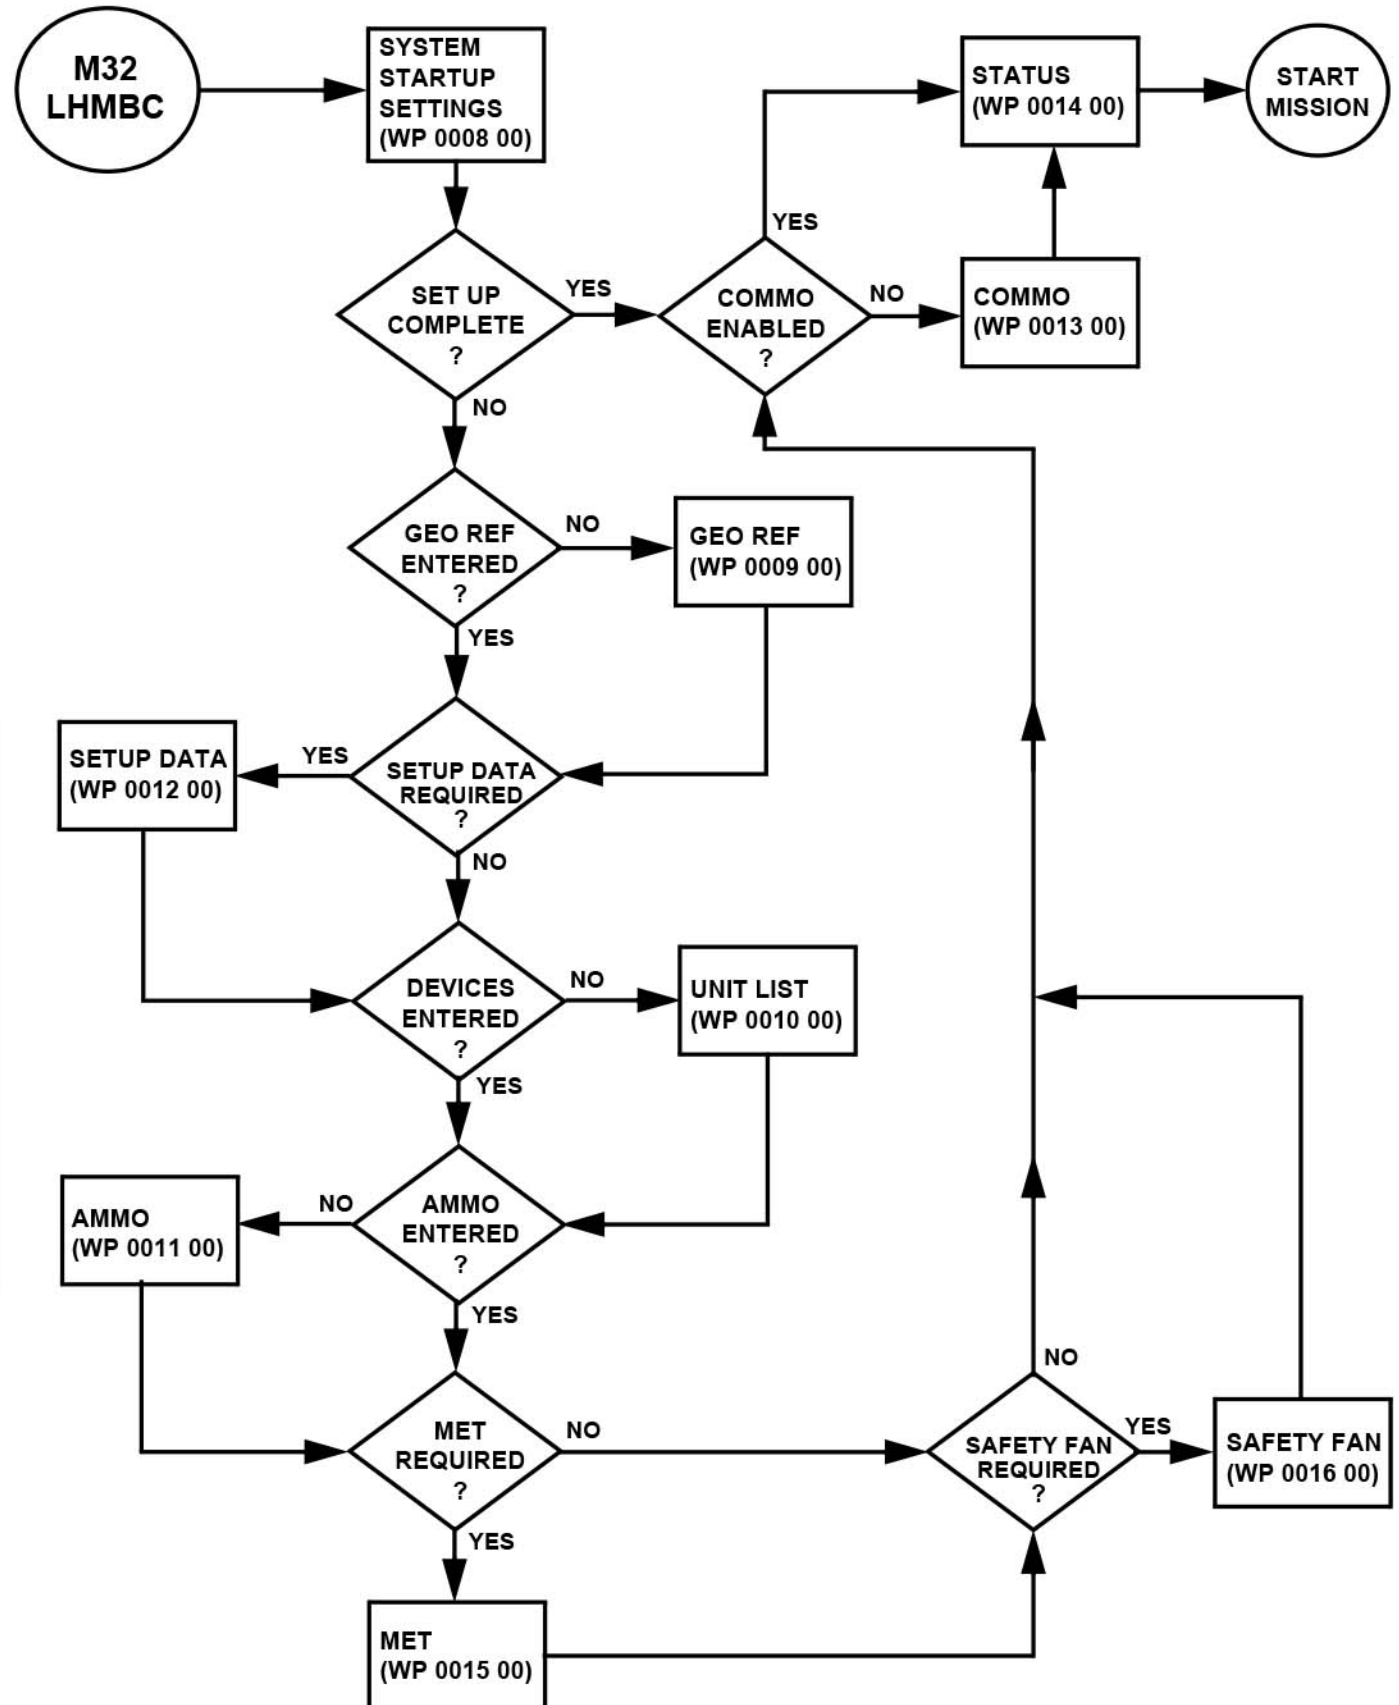
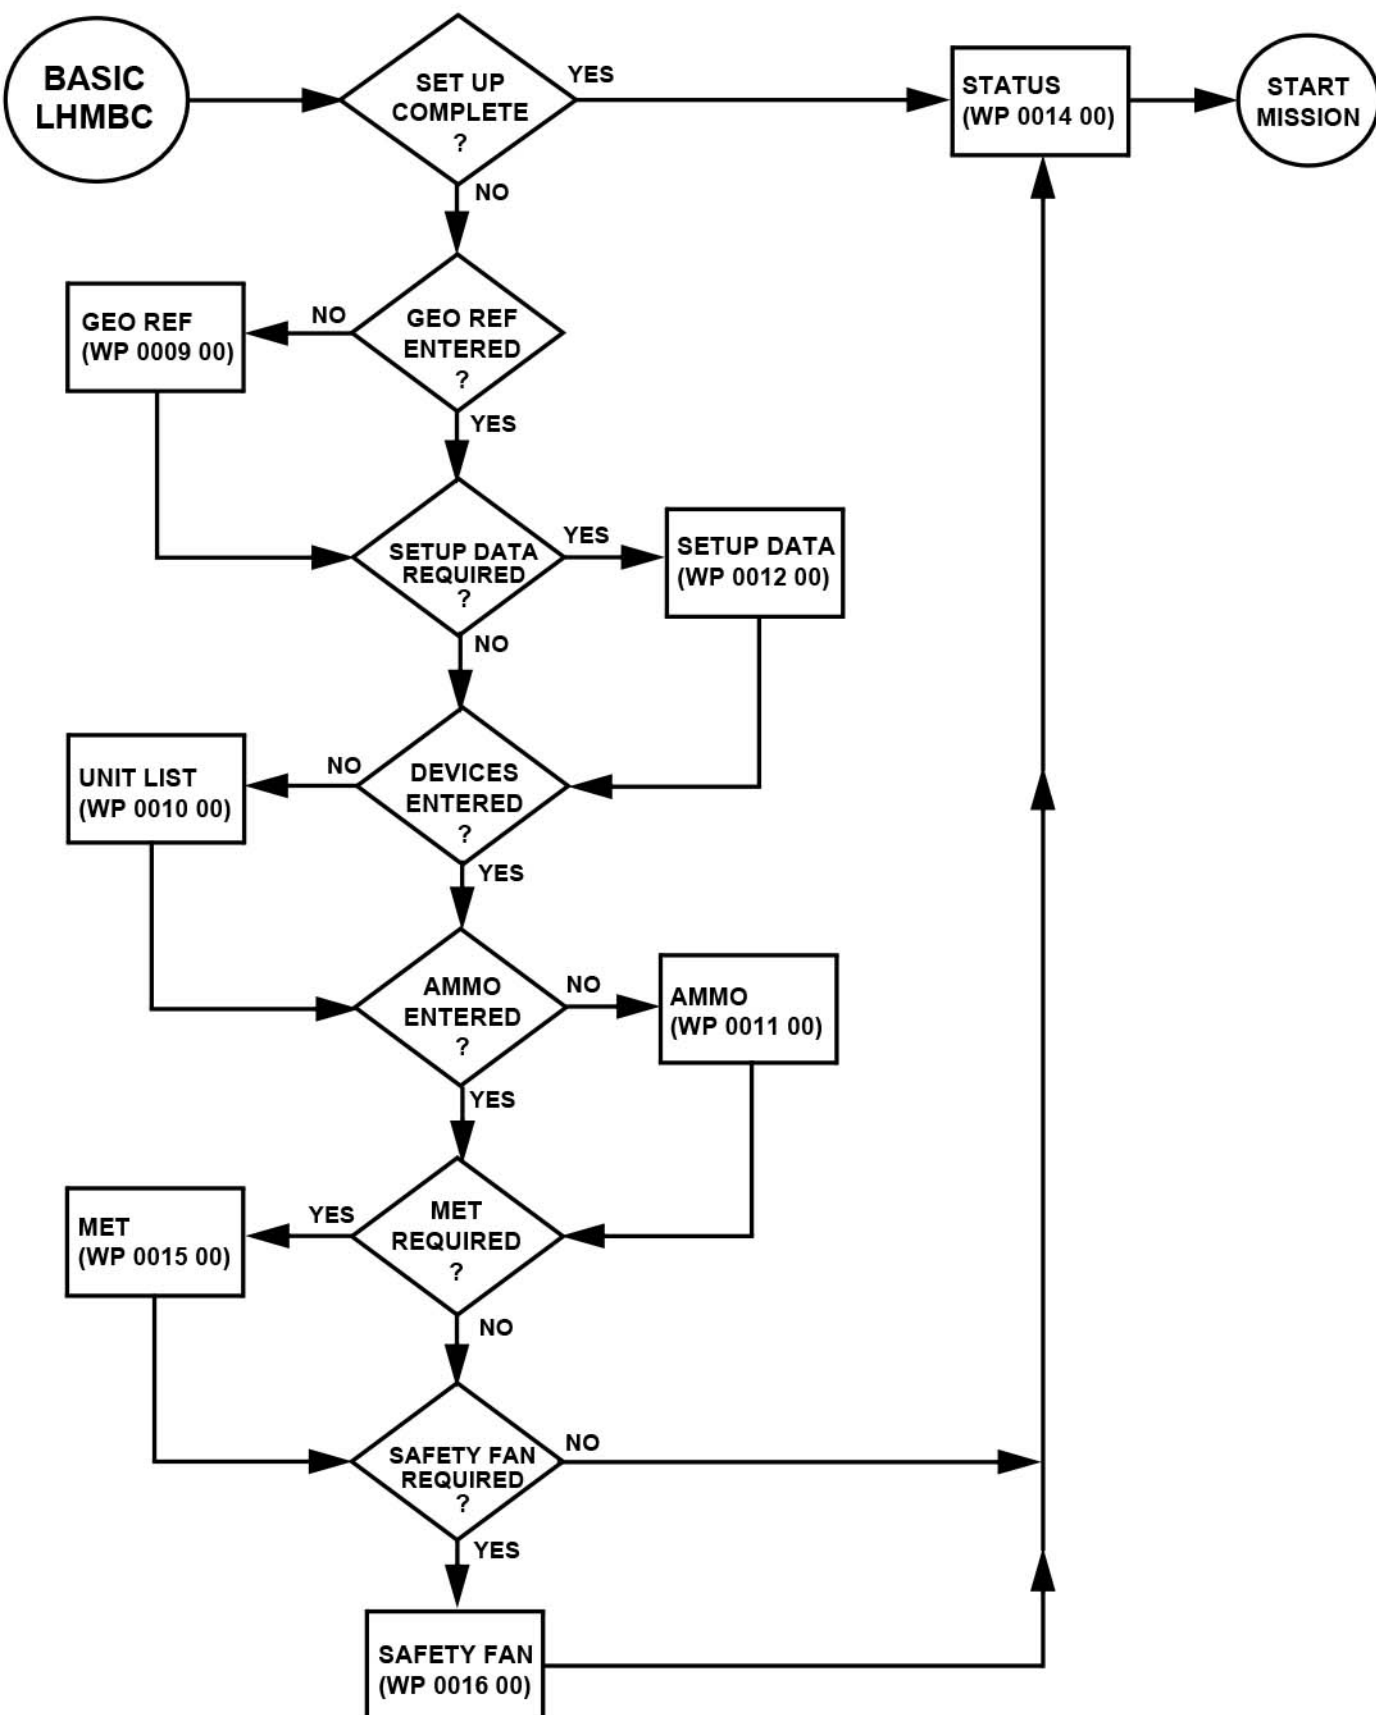

Figure 1. Flowchart for Setting Up the M32 LHMBC.
Figure 2. Flowchart for Setting Up the Basic LHMBC.
5. The following flowcharts show the steps needed to set up the M32 LHMBC (fig. 1) or the Basic LHMBC (fig. 2) before performing a mission. WP references on the flowcharts refer to the WP containing the detailed information on a particular function in the LHMBC software.